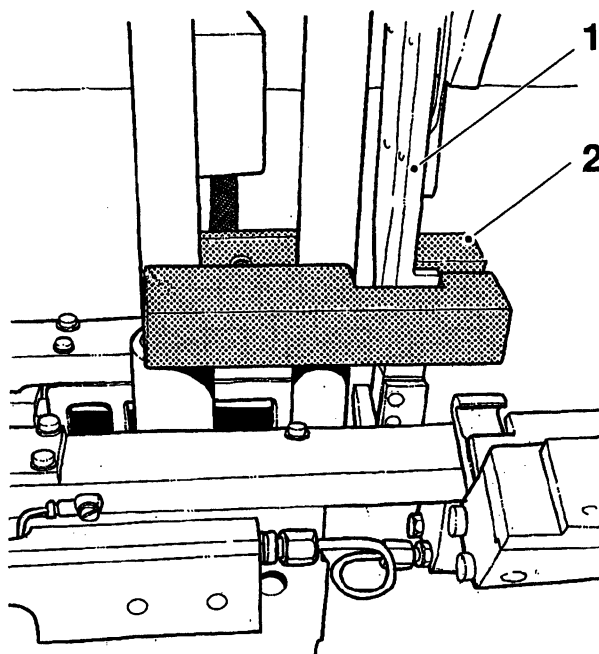

Fig. 1
- b) Turn the knob (3) fully in and then out one and a half turn (in order to make sure that there is a gap between the volume cams when the knob is turned fully in).
- c) Loosen the screws (4) and fit the template (2) on the LH volume cam section, see fig. 1. If required, loosen the screws (6).
- d) Set the outer volume cam (1) parallel to the template. Tighten the screws (4) and remove the template.
- e) Undo the four screws (5) and remove the volume cam section from the machine.
- f) Loosen the screws (6) and set the inner volume cam (7) parallel (± 0.2 mm) with the outer volume cam. Tighten the screws.
- j) Undo the screw (8) and shift the lug (10). Fit the screw (8) in the hole (9).